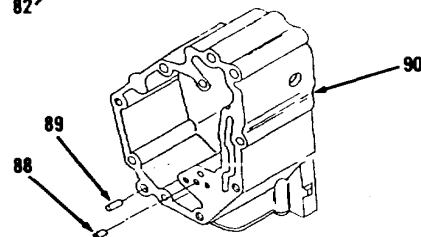

Figure 3-123.
36. Remove setscrews (82 and 83) if necessary, two nuts (84) and collar (85).
37. Remove dowel (86) from block (87).
38. Remove two dowels (88) and four dowels (89) from housing (90, Figure 3-123) if necessary.